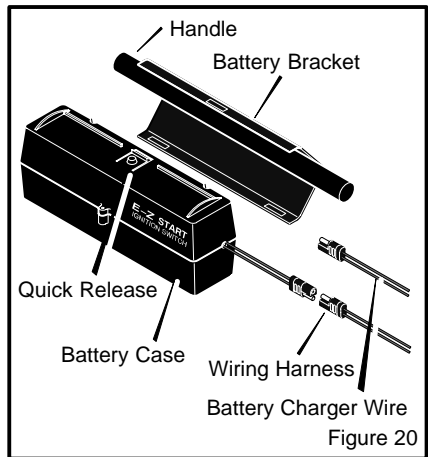

Figure 20
1. Disconnect the **wiring harness** from the battery (Figure 20).